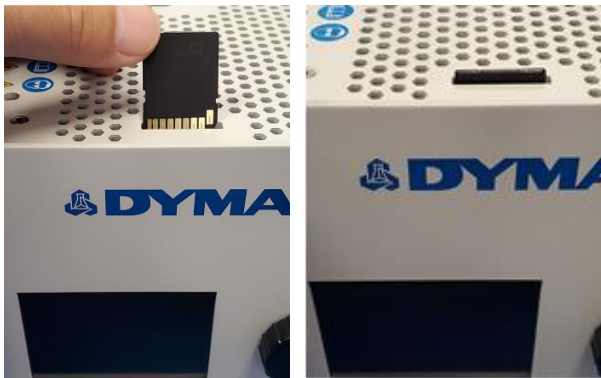

Figure 1. Insert the SD Card
5. Insert the SD card with the contact side face to front of the BlueWave[®] AX-550 as shown in Figure 1.